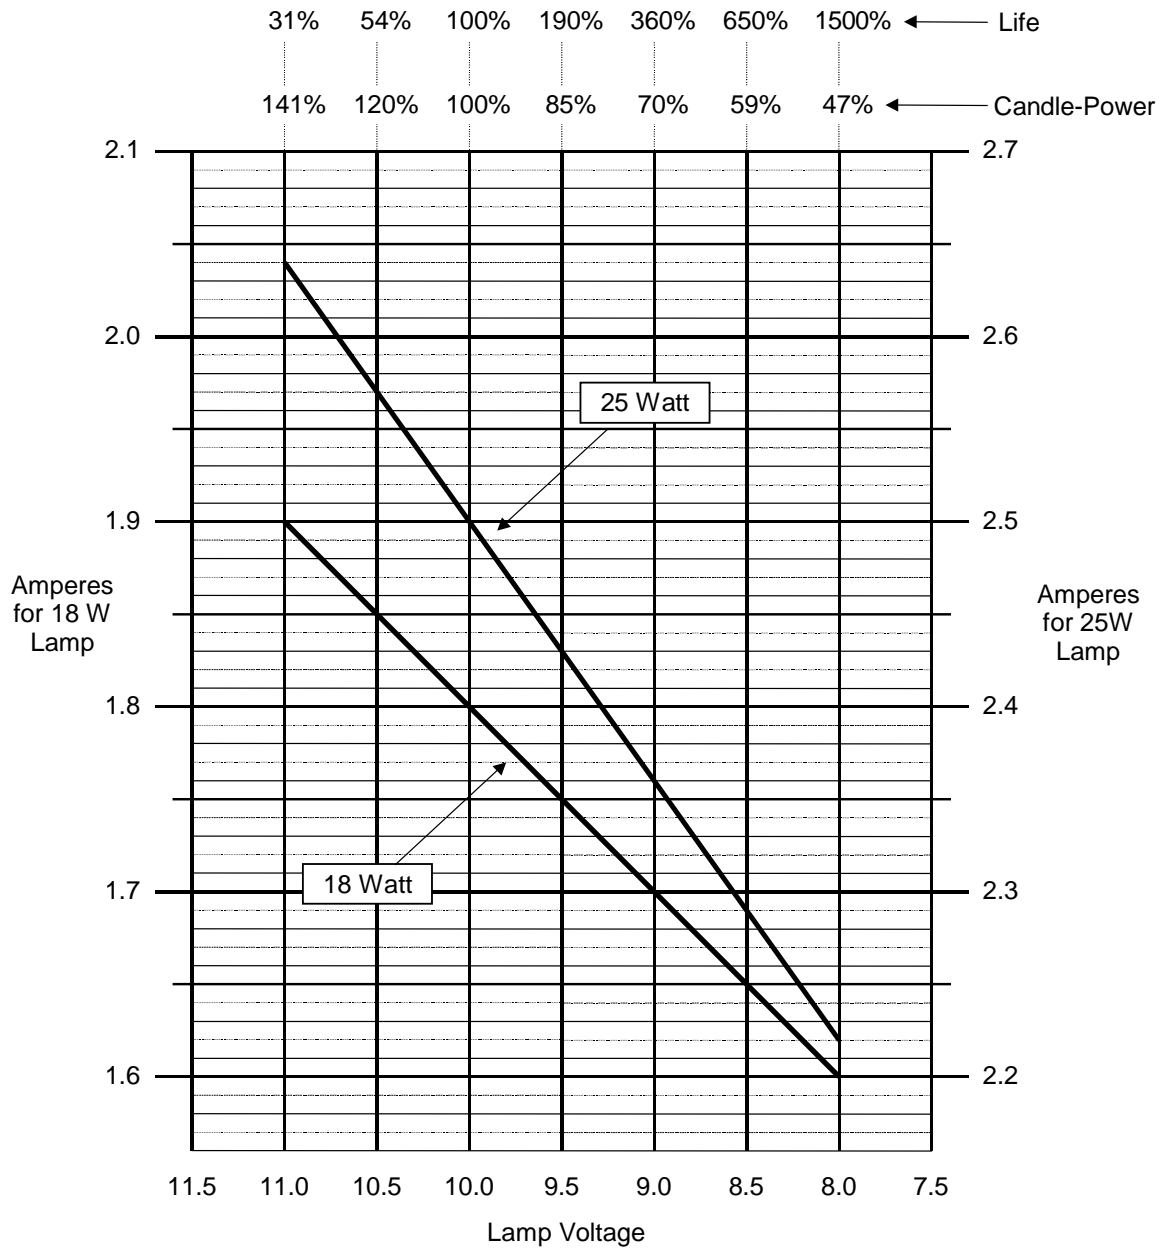

Figure 6-5. Signal Lamp Operating Characteristics
Figure 6-5 shows the relationship between lamp voltage, current, candlepower, and bulb life for 18 and 25 watt lamps. To obtain a suitable current level for a lamp using this chart, factor in the lamp power rating, the recommended operating voltage range for the lamp, the required candlepower, and the desired operating life for the lamp.
4. Select an appropriate lamp current for the first enabled lamp as discussed earlier in this section (see Figure 6-5).
When adjusting the Microlok II current level for a searchlight signal, the lamp current and mechanism coil current are measured together. With the red aspect selected, the current is accurate. With the green aspect selected, the displayed current is lower than the actual lamp current by 0.04 amperes. With the yellow aspect selected, the current displayed is higher than the actual lamp current by 0.04 amperes. See Figure 6-5 for the desired lamp current and compensate the reading as required.